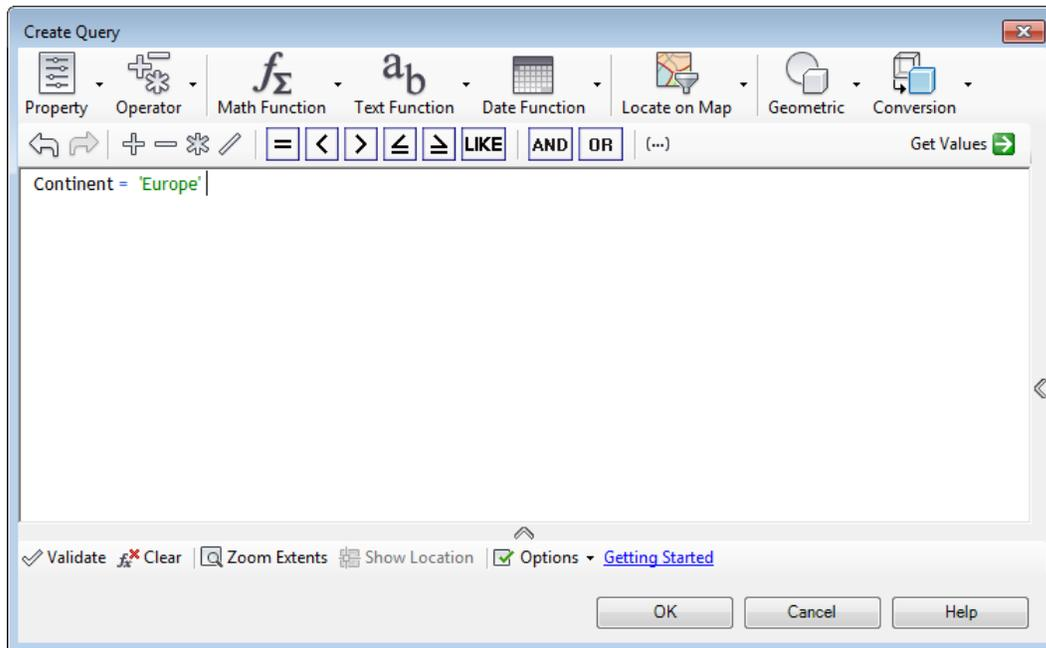

Figure 2-29 The **Create Query** window displaying the query
13. Enter **Continent = 'Europe'** in the edit window, as shown in the Figure 2-29, and press the **OK** button in the **Create Query** window; the query is executed and the filtered map objects are added to the drawing window.